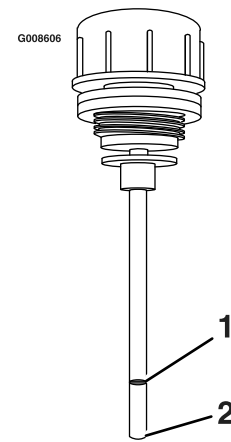

Figure 26
6. Remove the cap again and check the level of the oil on the dipstick. See Figure 26 for oil levels.